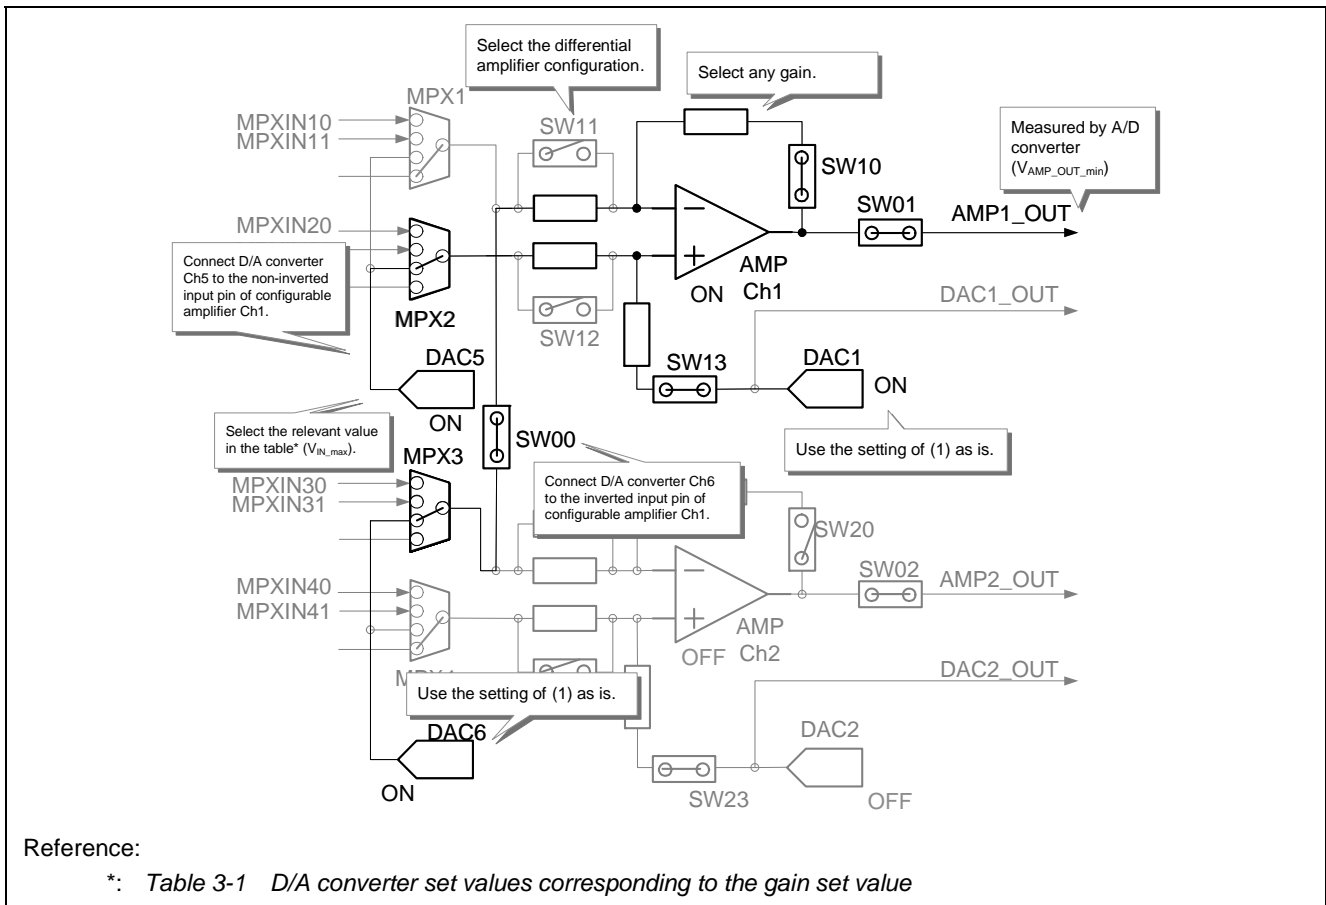

Figure 3-11 Configurable amplifier Ch1 for maximum value measurement
(2) Maximum value measurement
Figures 3-11 to 3-13 show how a circuit is configured for maximum value measurement and the circuit setting conditions. Do not change the input voltage on the inverting input and the reference voltage on the non-inverting input set in (1) *Maximum value measurement*.